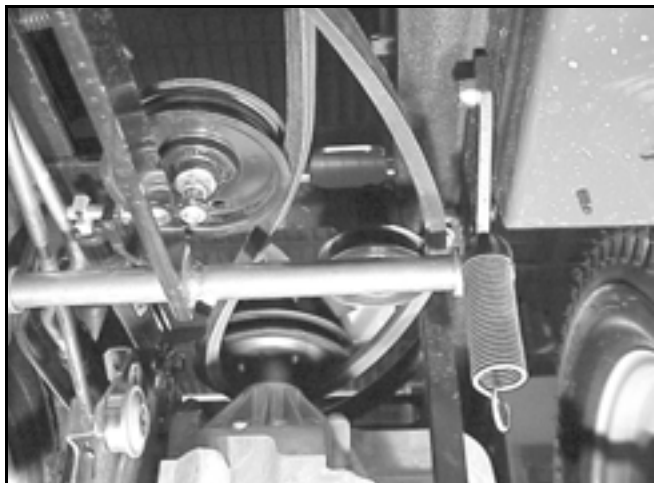

Figure 155
6. Route the belt over the lift bar assembly (Figure 155).